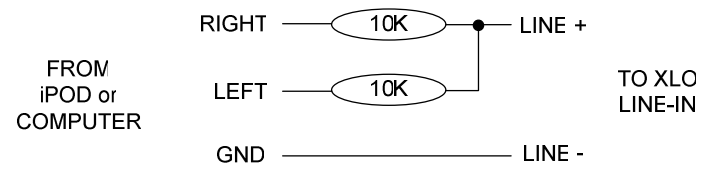

Figure 3. Optional Stereo-to-Mono Mixer
10. Two 10K resistors are included to allow you to make a stereo to mono mixer to drive the line level input. See Figure 3 below.